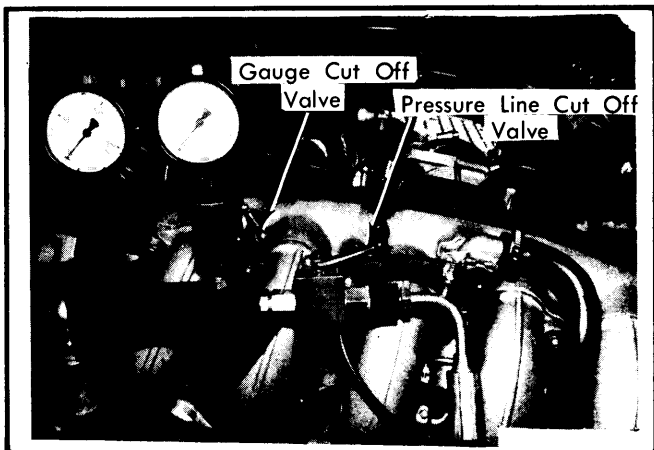

Fig. 6 Power Steering Pump Pressure Check
2) Shut cut-off valve on gauge. Open shut-off valve on pressure line (See Fig. 6), and bleed system with engine running at idle. After bleeding, close valve in pressure line for 10 seconds maximum and read pressure. Pressure should be 1560 ± 156 psi (109.7 ± 11 kg/cm²). If pressure is not within limits, check belt tightness. Replace pump if belt adjustment does not help.